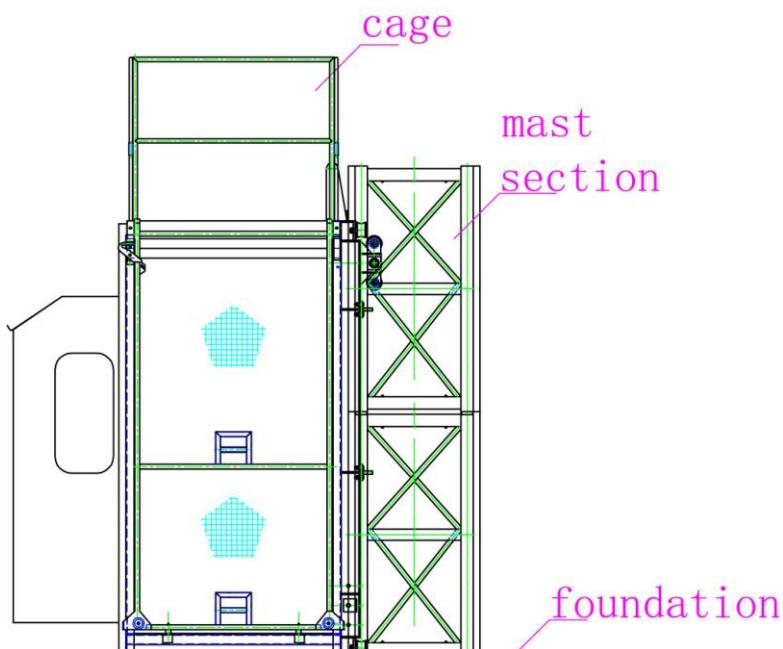

Figure 2
4.4.1 The auxiliary elevators should hang the mainly parts (three mast section, main bottom support, cage and so on.) then put them in order. It should put on the foundation but please don't fix the under frame at this moment.(see figure 2)